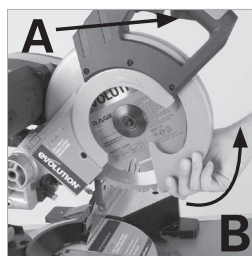

Fig. 39
- Press the lower blade guard locking trigger **(A)** and rotate the lower blade guard **(B)** up and into the upper blade guard. **(Fig. 39)**